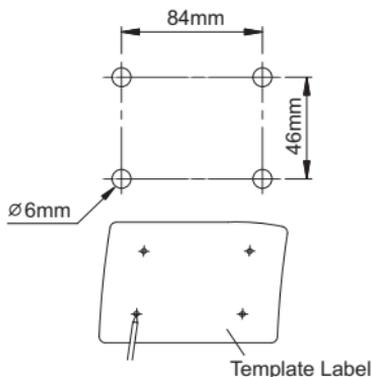

FIG.3
1. When you need to install a camera on the surface of a concrete wall, you can drill a hole like Fig.3 exactly by using a template label offered by accessory.
2. As Fig.3, please set a calblock in the hole of the wall.